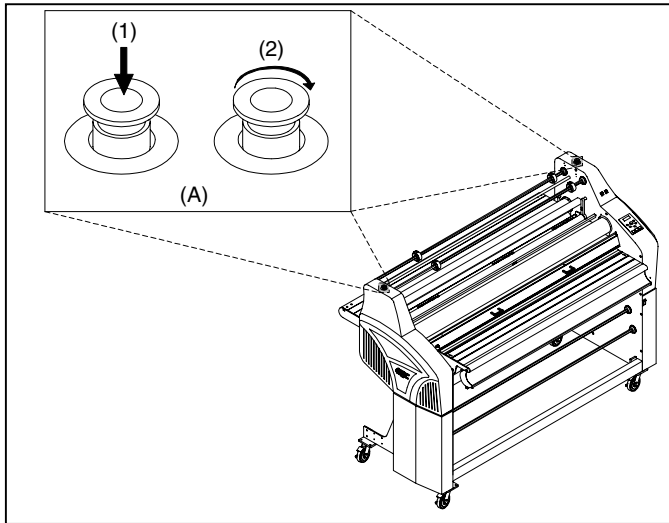

Fig. 13
A. E-STOP: (Figure 13) Two E-STOP buttons exist on the laminator. One on each side of the upper cabinet.